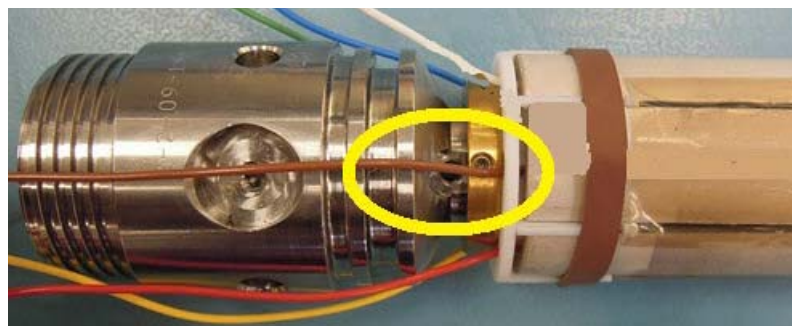

Figure 5-15 Rx Crystal Alignment
- 3 Push the Tx to Rx1 Hose (item 26) into the Receiver Top (item 11). Orientate the Receiver Top so that the No 1 Alignment stamp is facing upwards.
- 4 Screw the Slide Cover (item 9) onto the Receiver Top (item 11). Tighten with two C-spanners.
- 5 Check the Crystal Receiver Assembly (item 1) is not damaged. Contact GE Oil & Gas Technical Services where a replacement is required.
- 6 Slide the Crystal Receiver Assembly (item 1) onto the Receiver Top (item 11).
- 7 Check the correct orientation of the Crystal Receiver Assembly (item 1) on the Receiver Top (item 11) - the cutout should be aligned with the wires that exit the Receiver Top.
Note: **It is very important** to align the Crystal Receiver Assembly (item 1) segment No 1 with the **brown wire** to the screw hole on the Receiver Top (item 11), see Figure 5-15.